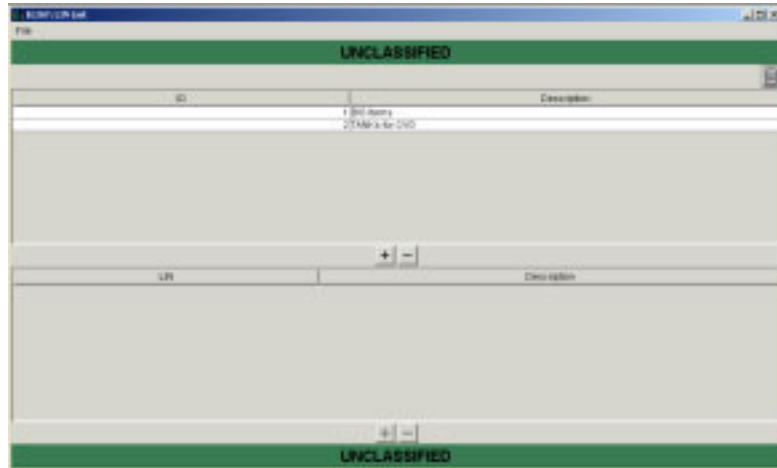

Figure 5.188 ELIST: LIN List Window
1. As needed, on the Reference menu, click LIN List. The ELIST: LIN List window opens (Figure 5.188). Otherwise skip to Step 2.